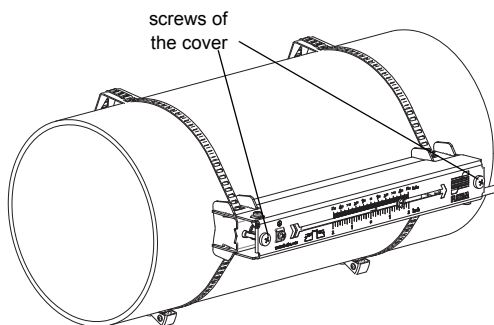

Fig. 7.22: Transducers with Variotix L on the pipe
- Tighten the screws of the cover (see Fig. 7.22).